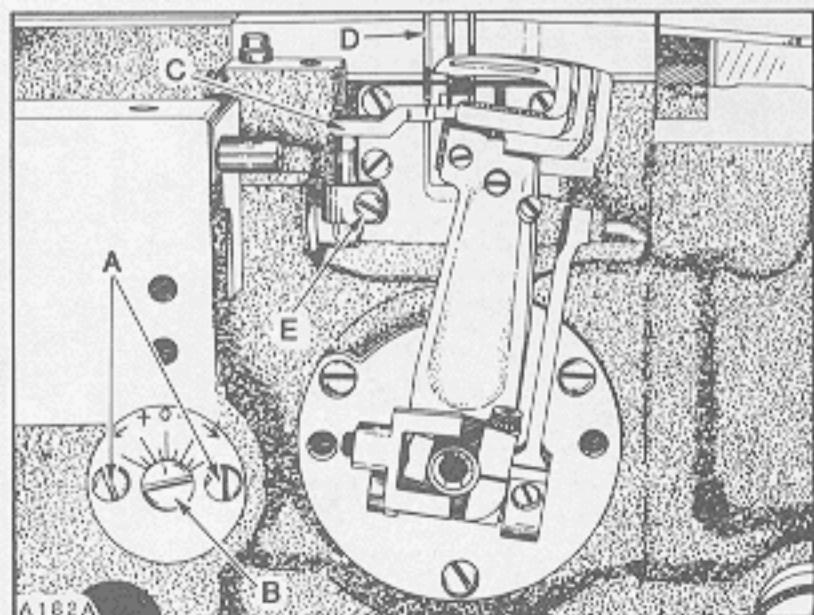

Fig.13
Machine is equipped with a quick adjustable looper avoid mechanism to accommodate extreme differences in needle sizes. As the looper travels from left to right with needle bar descending, the needle points should contact ONLY the lower THIRD of the back of looper blades. If looper avoid requires re-setting, loosen two screws (A, Fig. 13) and turn eccentric stud (B) towards the plus side (counterclockwise) for MORE looper avoid or towards the minus side (clockwise) for LESS looper avoid. When desired setting is acquired, tighten screws (A).
Rotate handwheel in operating direction to position looper points at the RIGHT hand side of needles. At this time the needle guard (C, Fig. 13) should be at its EXTREME END of FORWARD travel. Adjustment can be made by loosening two screws (A, Fig. 14) and turn needle guard eccentric (B) slightly as required until this condition exists. Ensure $.002$ inch (.051mm) clearance between needle guard eccentric (B) and looper drive sprocket (C) while tightening screws (A) securely.